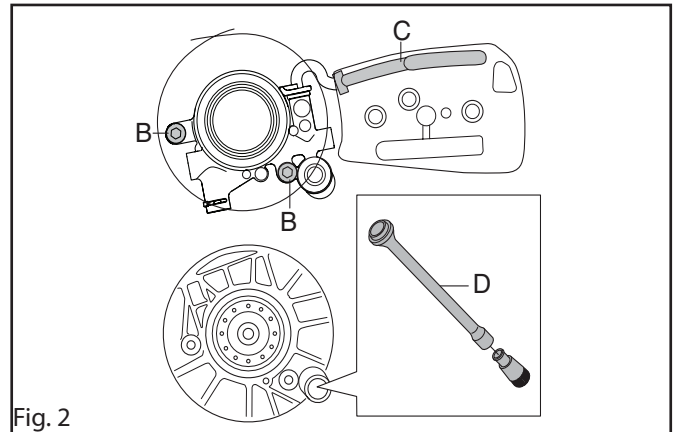

Fig. 2
6. Use pointed pliers and carefully pull up the suction hose (D) with filter. See figure 2.
5. Insert the suction hose (D) in the hole in the crankcase. See figure 2.
6. Fit the oil pump in the crankcase. Fit the oil hose with integrated seals (C). See figure 2.